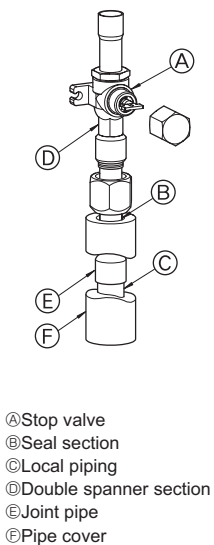

Fig. 4-3
- Use the following procedure for connecting the gas-side piping. (Fig.4-3) (HRP200)